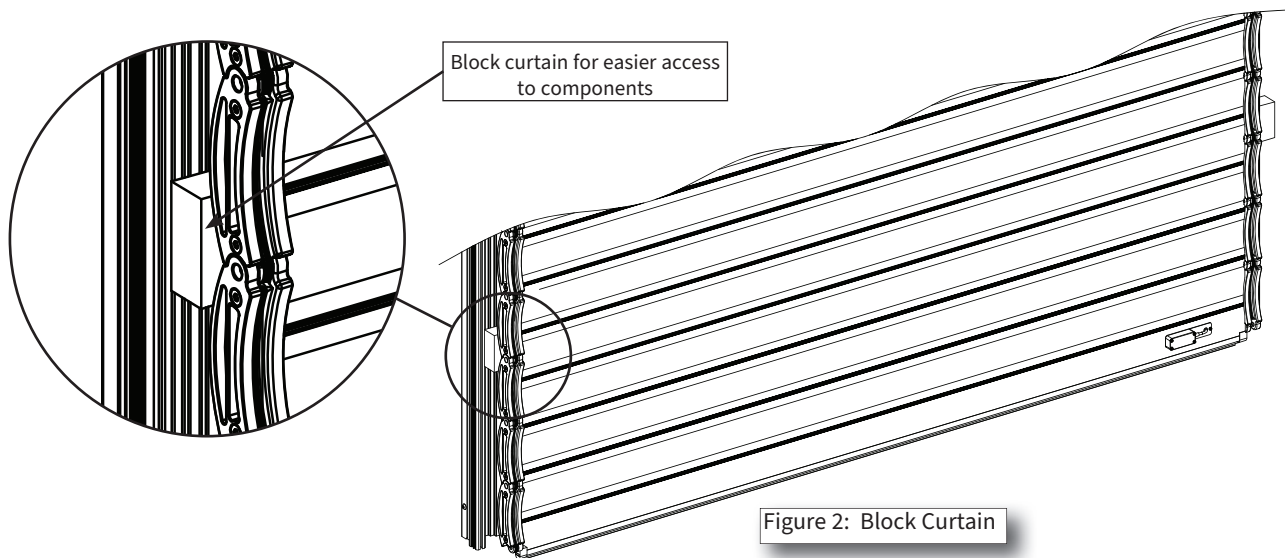

Figure 2: Block Curtain
- 4 Place wood or foam blocks between curtain and face frame extrusion close to damaged slat(s). This will allow curtain to hang in front of face frame extrusion to allow you to get better access to the slat mounting screws, and make it easier to remove the slat(s) (Figure 2).